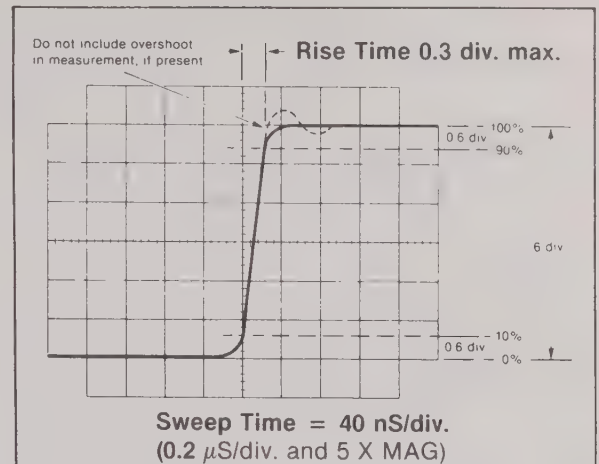

Fig. 22. Risetime Measurement.
Rise time is the period of time required for a pulse to rise from the 10% level to the 90% level of transition. See Fig. 22. The Model 1530 should have a rise time of 11.7 ns or less or 17.5 ns for Model 1525. Use a signal source with a rise time of 4 ns or less. Terminate the signal source with 50 ohms to prevent ringing. Measure channel A and channel B independently.
3. Adjust for six divisions amplitude as shown in Fig. 22.